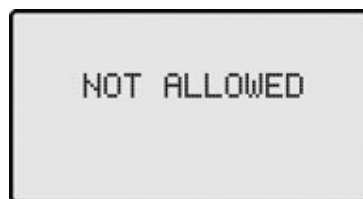

Figure 6-3 Not allowed
2. Repeat step 1 until all the lines of the order have been entered on the mini POS. While entering an order press ESC at any time to cancel the whole order. If, while entering an order, an invalid product key is pressed (a key that has not been configured to represent a product) the display will show as in Figure 6-3. The operator must then press ESC to continue with the order. On the display of the mini POS keyboard a dot shows which is the selected line. By default this is the line last entered. Using the ▼ and ▲ keys another line can be selected. The selected line can be cancelled by pressing the <DELETE>-key.
3. Cashier presses <CARD TO CASH>-key. The display shows as in Figure 6-5 (FacilityPro card) or Figure 6-6 (Chipknip). Unless an order has been entered consisting of only one line, and representing a number of cents (see step 2 above), the CARD TO CASH-key will not work and the display will show as in Figure 6-3.
7. Cashier presses <CASH TO CARD>-key. A beep sounds and the display shows as in Figure 6-15. If no amount has been transferred from a card to the mini POS (steps 2 through 4) the <POS to CARD>-key will not work and the display will show as in Figure 6-3.